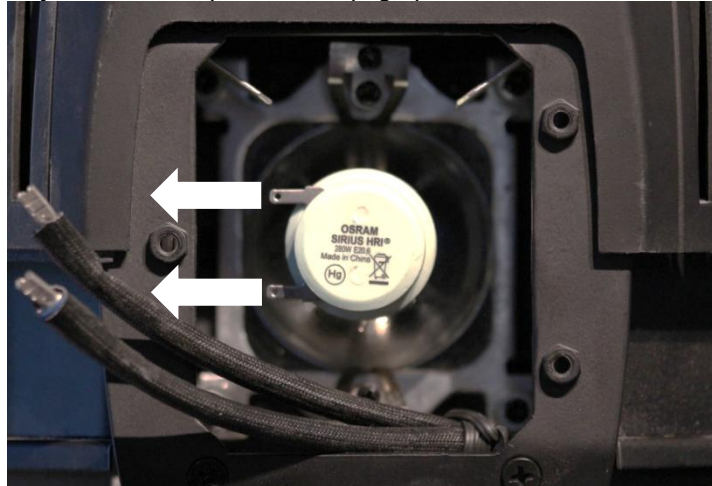

Figure 3 - Removed cables
- Remove the cables gently from the lamp terminals (Fig.3)